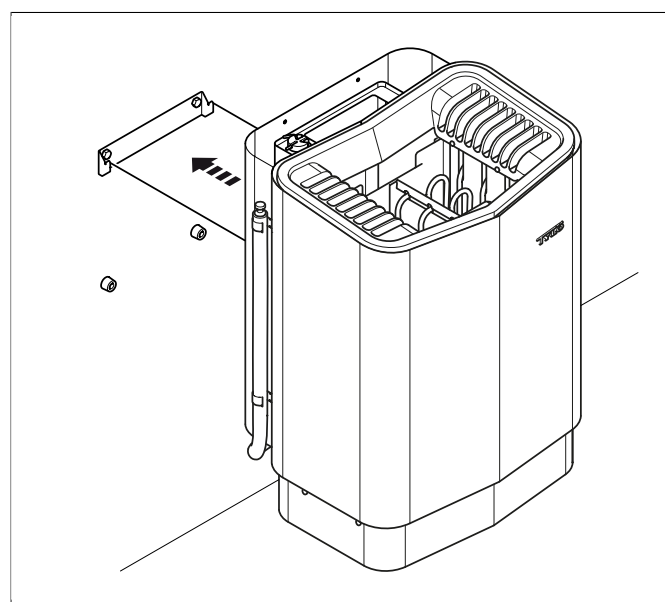

Figure 11: Hang the heater up.
9. Hang the heater on the bracket (see **Figure 11**, Page 5).